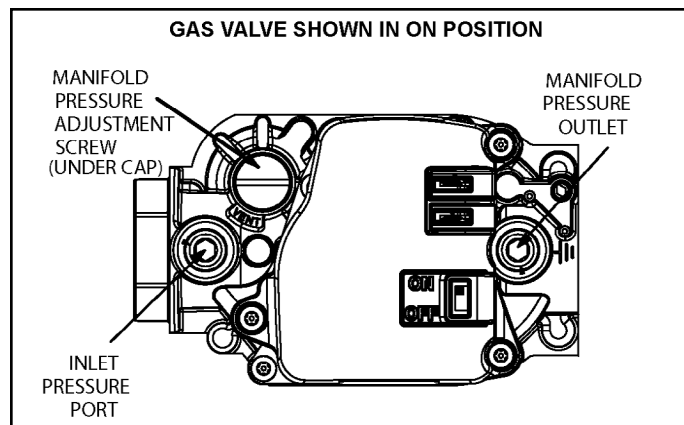

Figure 69.
See Figure 69
6. Move gas valve switch to OFF. See Figure 69.
8. Move gas valve switch to ON. See Figure 69.
When testing supply gas pressure, use the 1/8" N.P.T. plugged tap or pressure post located on the gas valve to facilitate test gauge connection. See Figure 69. Check gas line pressure with unit firing at maximum rate. Low